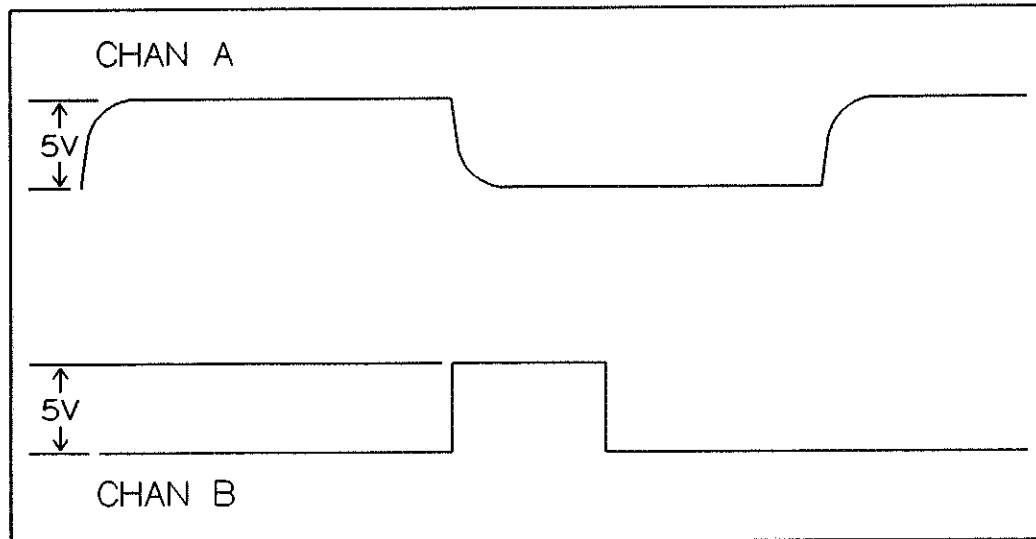

Figure 21-4 SYNC WF Waveforms
8. Verify that the waveform displayed on the oscilloscope is as shown in Figure 21-4. The sync pulse on channel B of the oscilloscope should go low approximately 4 μ S before the output pulse goes high.
25. Verify that the waveform displayed on the oscilloscope is as shown in Figure 21-4. The sync pulse on channel B of the oscilloscope should go low before the output pulse goes high.